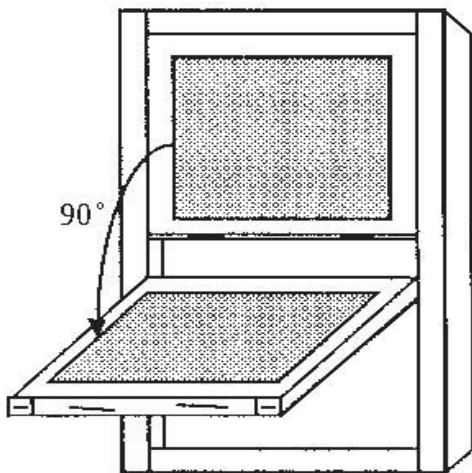

Figure 1
- * Push and hold the tilt latches toward the center of the window, while tilting the sash open 90 degrees (See figure 1).